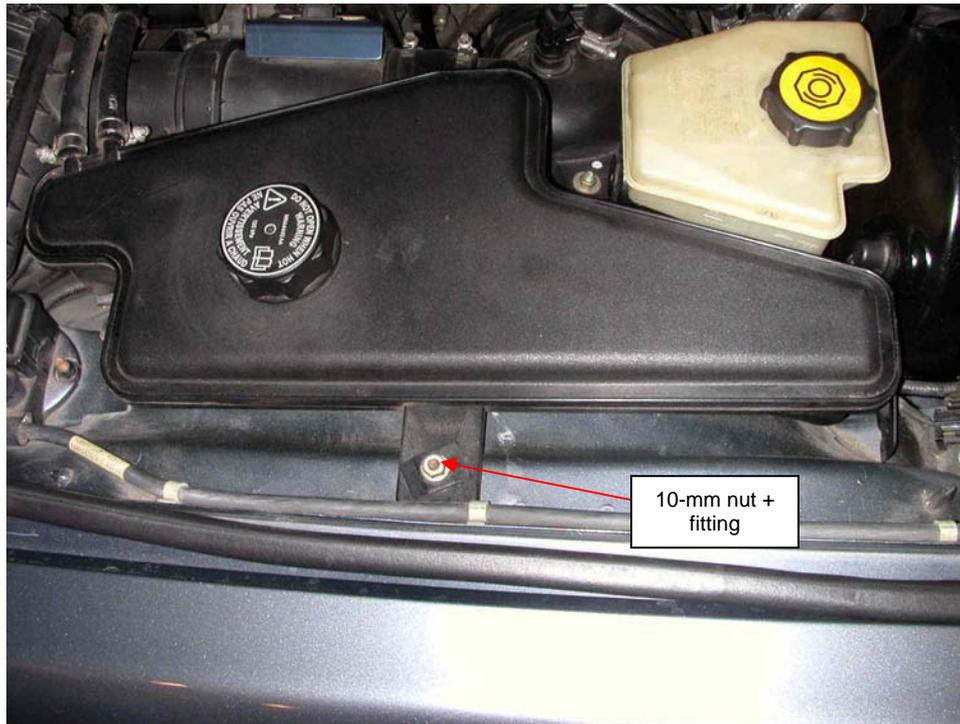

Fig. 7
7. Remove the 10-mm nut and fitting securing the expansion tank to the fender (Fig. 7).